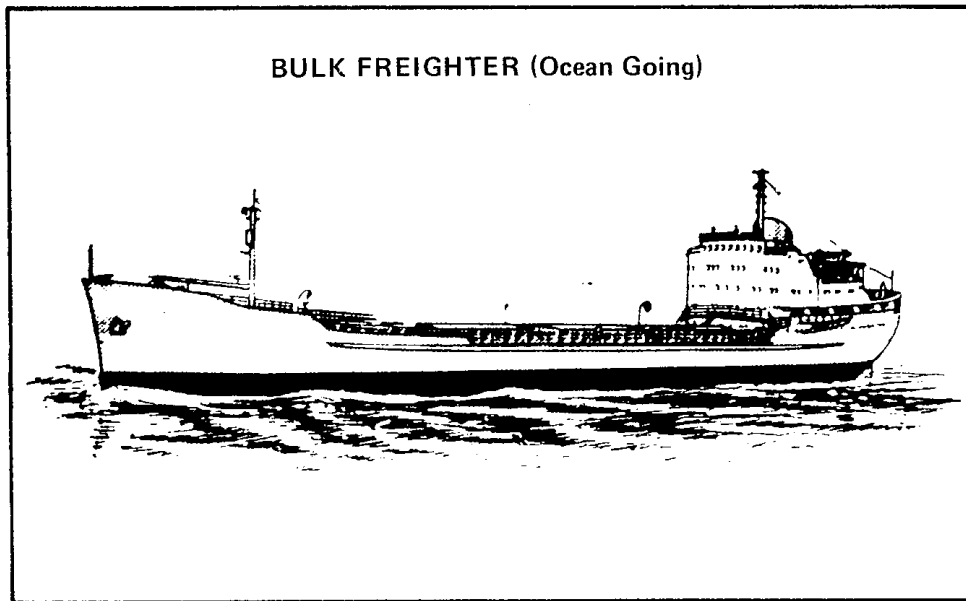
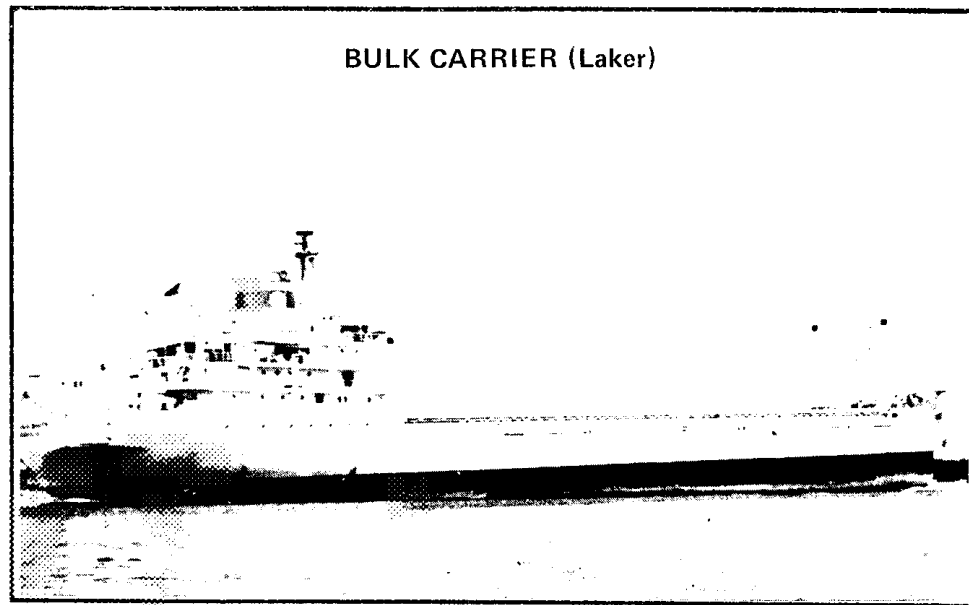

Figure 8-63 Bulk Freighter (Ocean-Going)
Figure 8-64 Bulk Carrier (Laker)
- a. **Bulk Freighter** — (See Figures 8-63 and 8-64.) These freighters are designed to carry cargoes such as coal, ore and grain in bulk. Like the tankers, which they sometimes resemble, they are a specialized type of ship usually trading only between certain ports. Their speed varies from 10 to 15 knots. The dry bulk carrier is normally a **large vessel** with **superstructure aft**, **clear cargo deck** with a **light boom rig forward**. See Figures 8-64 and 8-65.
This type of vessel is very commonly seen on the St. Lawrence Seaway and Great Lakes. These Lakers are very large and of deep draught, but are not generally suitable for deep-water trade (see Figure 8-64). Most modern bulk carriers have high booms lying fore-and-aft. These contain conveyor-belts connected to their cargo holds, and are swung outboard when in use. These vessels require no dockside equipment to unload them and are known as **self-unloaders**.